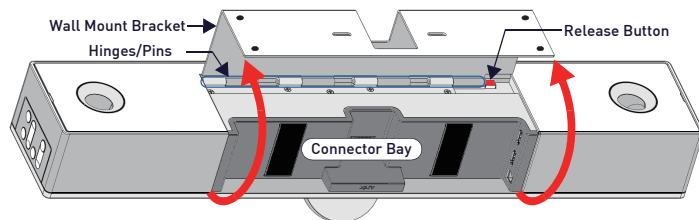

FIG. 2 ACV-5100 BOTTOM VIEW - OPENING THE WALL MOUNT BRACKET
- Press and hold the **Release Button** to slide the Bracket out (over the button) to disengage the pins on the Bracket from the hinges on the unit (FIG. 2).
- Connect cables as necessary (inside the Connector Bay - see FIG. 2).